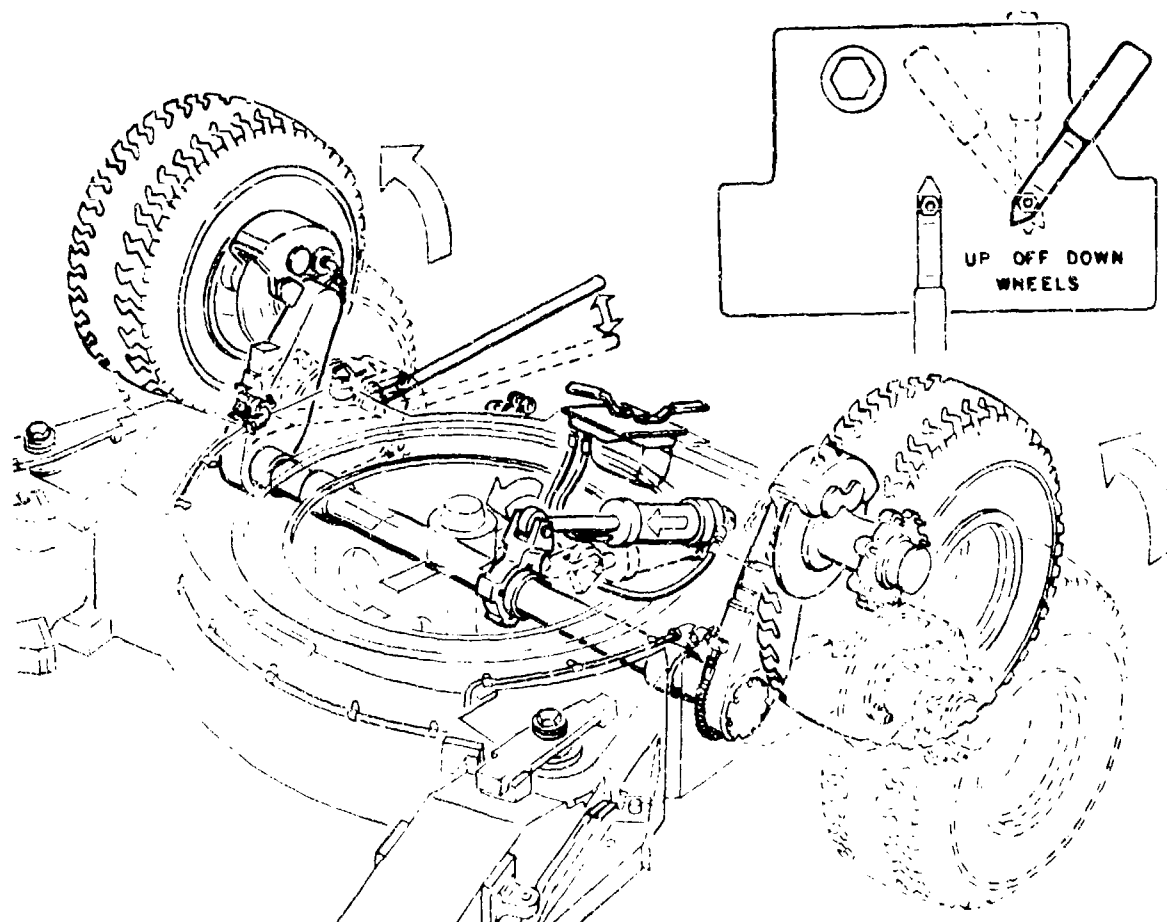

Figure 6-4. Actuator cylinder assembly.
a. *General.* This assembly is located on the right forward section of the bottom carriage assembly and provides power to raise and lower the wheels (fig 6-4).